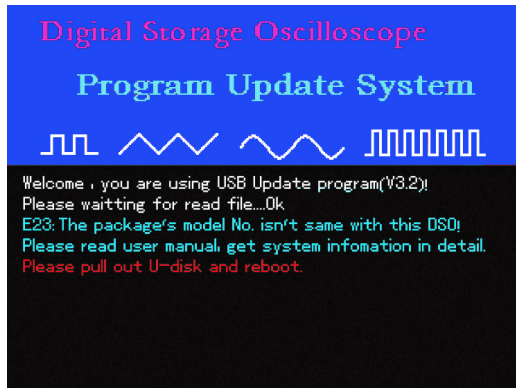

Figure 5-12
7. If the model of the program upgrade pack is incompatible with the Oscilloscope, the prompt in Figure 5-12 will appear : “E23 : The package’s model No. isn’t same with this DSO! Please read user manual, get system information in detail. Please pull out U-disk and reboot.”